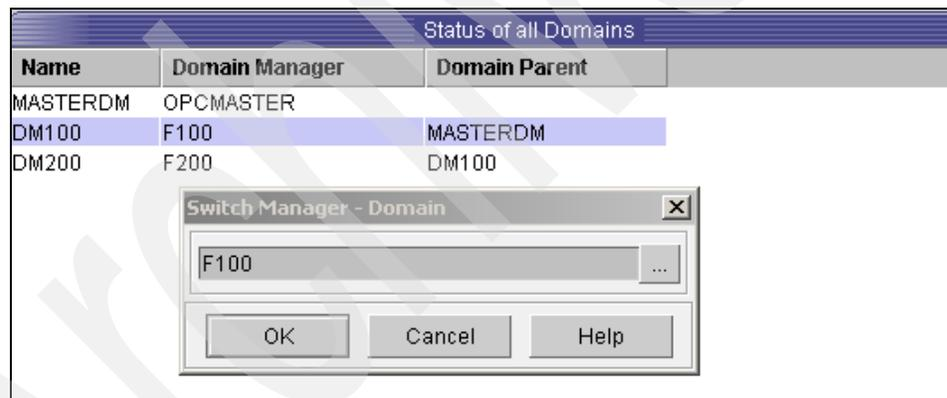

Figure 17-11 The Switch Manager: Domain search pop-up window
- The JSC shows a new pop-up window in which we can search for the agent we will switch to (Figure 17-11). Click the search button (the square box with three dots) to the right of the F100 domain.